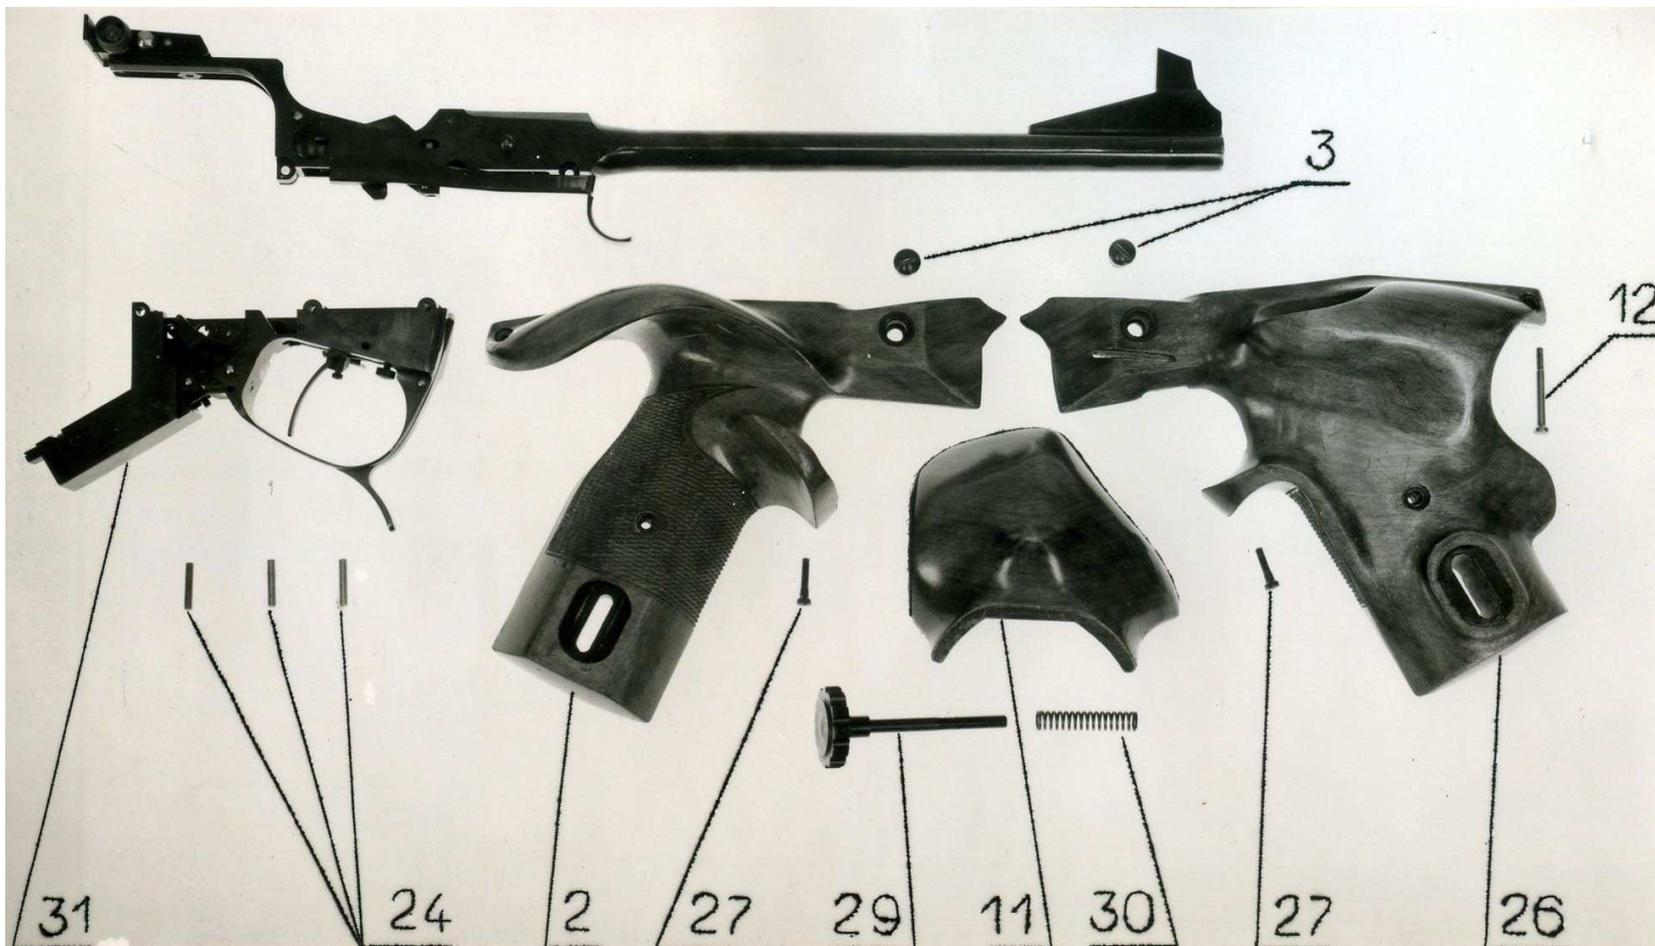

Figure 13.
Pull the bolt lever a little bit downward and using drift pin (105) extrude the connecting pins (24, Fig. 13); push the bolt lever back to its upper position; remove trigger housing (31).